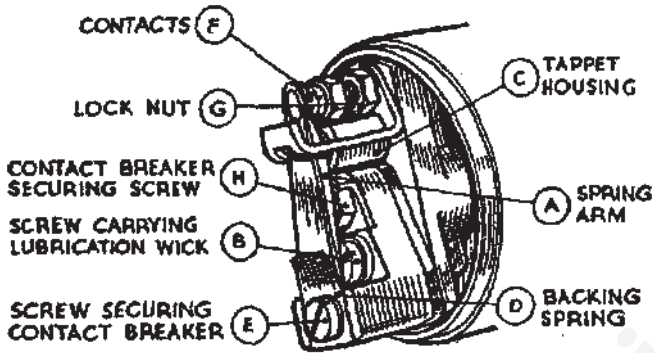

FIG. 51.—CONTACT-BREAKER COMPONENTS .
- (1) Move aside the blade retaining the contact-breaker cover, and remove the cover.
- (2) Remove the screw and spring washer *E* securing the spring blade *A* also the backing spring *D* (see Fig. 51).
- (3) Remove the screw *B* and the fibre bush.
- (4) Straighten the lock-washer *D* (Fig. 51) under the centre screw *H* retaining the contact-breaker, finally prise off the contact-breaker.
With the contact-breaker cover removed, turn the engine until the contact points *F* (Fig. 51) are fully open. Insert the gauge attached to the spanner for adjusting the points. If the gap is correct, i.e., 0.010-0.012 in., the gauge will be an easy sliding fit.
To reset the gap slacken the lock-nut *G* (Fig. 51), apply a magneto spanner to the adjustable contact and adjust as required.